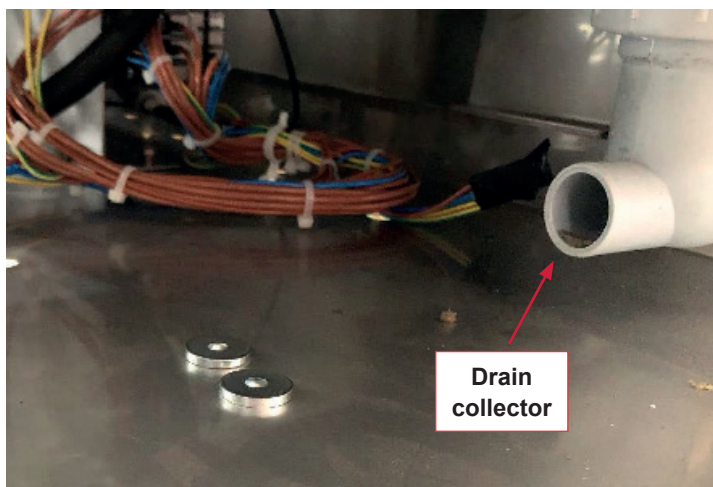

Figure 3: Position of the drain collector.
- Release the drain hose and rotate the drain collector by 90° in a clockwise direction. **See figure 3.**